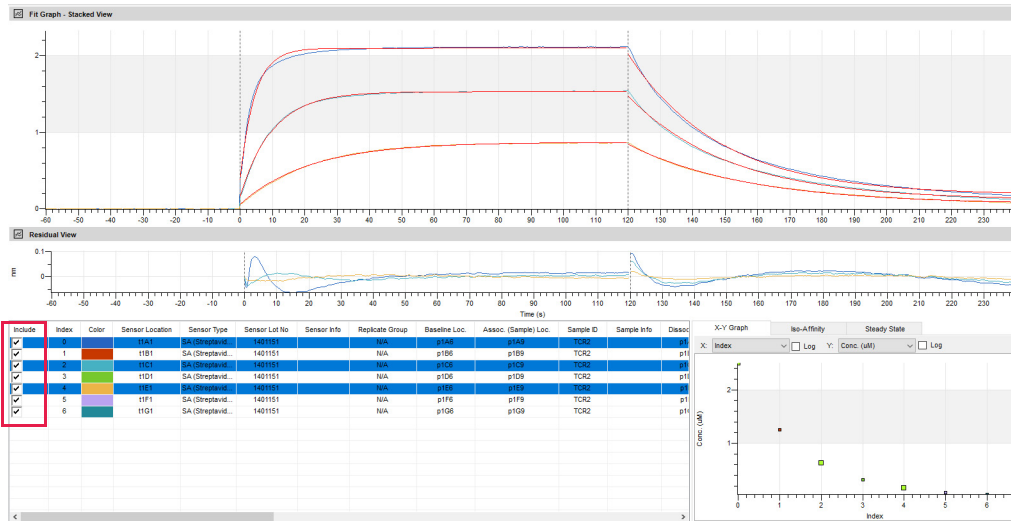

Figure 5-10: Overlaying Multiple Graphs
- To overlay multiple graphs, press and hold **Ctrl**, then select the rows in the table you want to overlay (Figure 5-10).